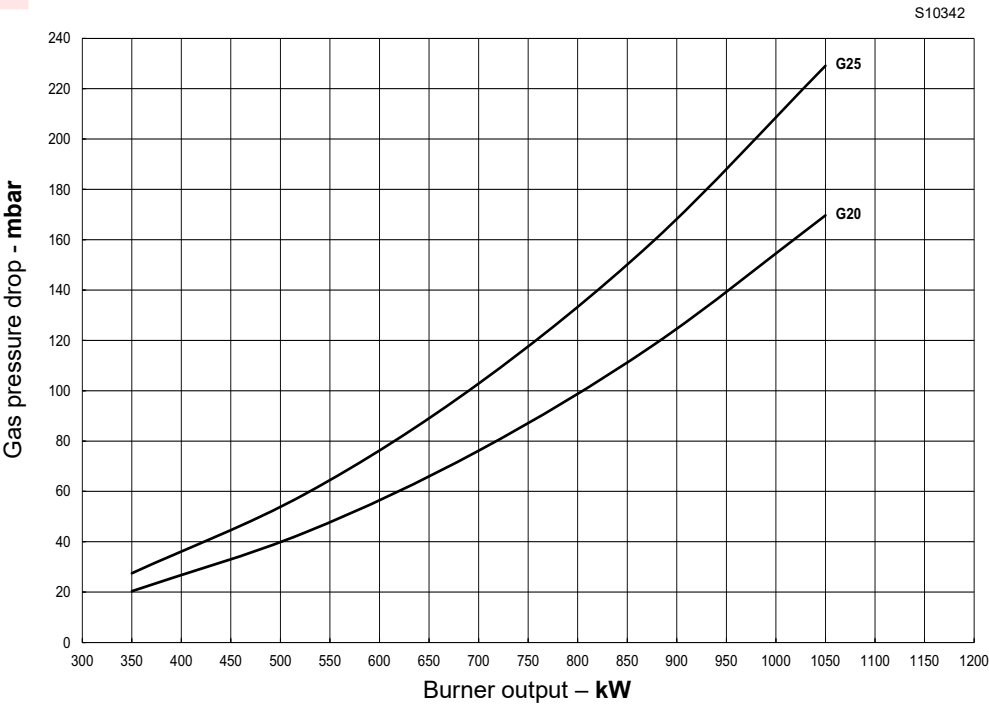

Fig. 25
- Enter the mbar scale (Fig. 25, Fig. 26, Fig. 27 and Fig. 28) and read the corresponding output by reading on the line.
- find the nearest output value (Fig. 25, Fig. 26, Fig. 27 and Fig. 28).